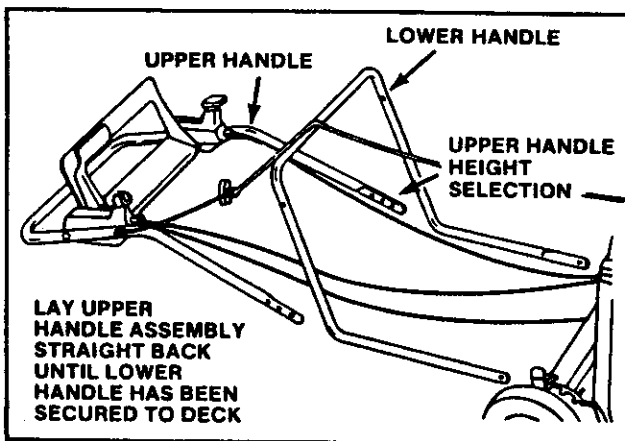
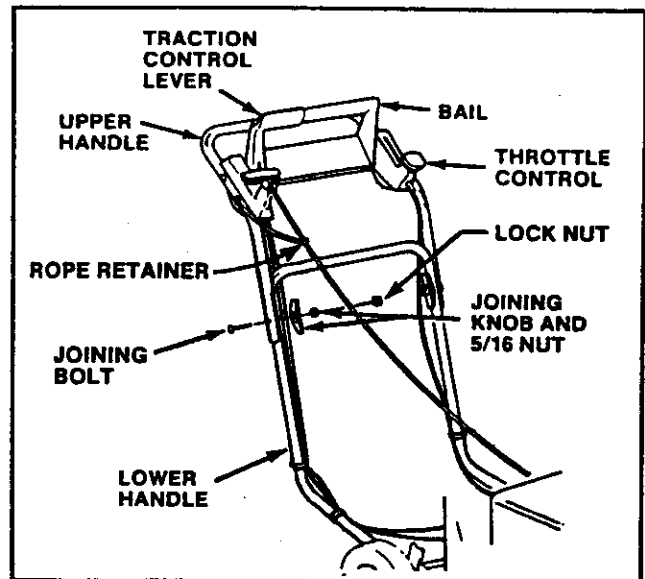

FIGURE 1
FIGURE 3
1. Lay the upper handle straight back from the mower so as not to pull or crimp the control cables. Lay the cables between the sides of the handles so they will go *under* the crossbar of the lower handle when the handles are put together. (See Figure 1.)
3. Take two of each of the following from the bag of parts: joining bolt, joining knob, hex nut and hex locking nut (the hex locking nut is identified by the indentations in the faces of the nut). Place upper handle onto lower handle. Select the height desired for the upper handle (see Figure 1) and push a joining bolt through the holes on the left side of the handles. (See Figure 3).